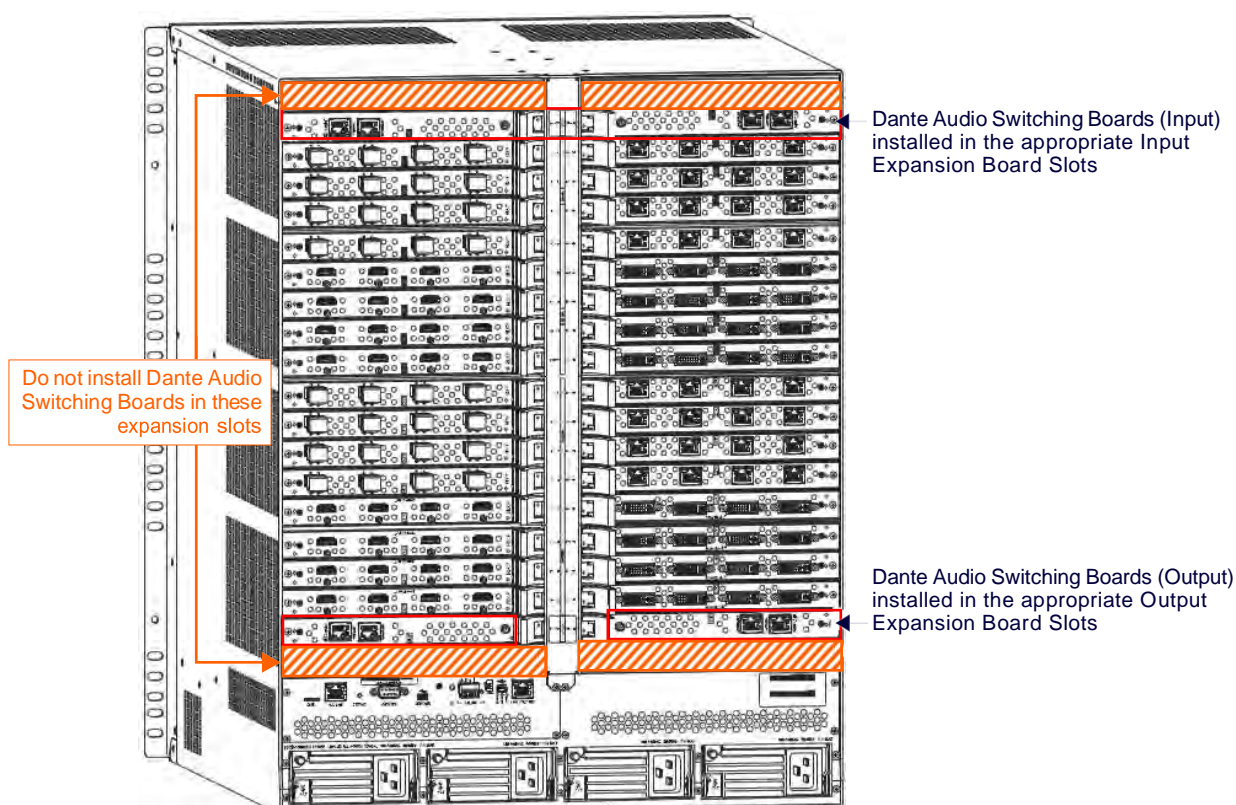

FIG. 80 Dante Audio Switching Boards - Enova DGX 6400 shown
- Dante Audio Switching Boards *must* be installed as pairs. They *will not* work unless both an input and an output board are installed in the same enclosure (if the enclosure is an **Enova DGX 6400**, two input and two output boards are required - see FIG. 80).
- **Enova DGX 6400** enclosures – *Must* use two input boards and two output boards in specific expansion board slots (FIG. 80). Boards are installed horizontally. Note that Enova DGX 6400 – Dante Audio Switching Input Boards must be installed directly above standard Input Boards in left and right slots and Output Boards must be installed directly below standard Output Boards in left and right slots.